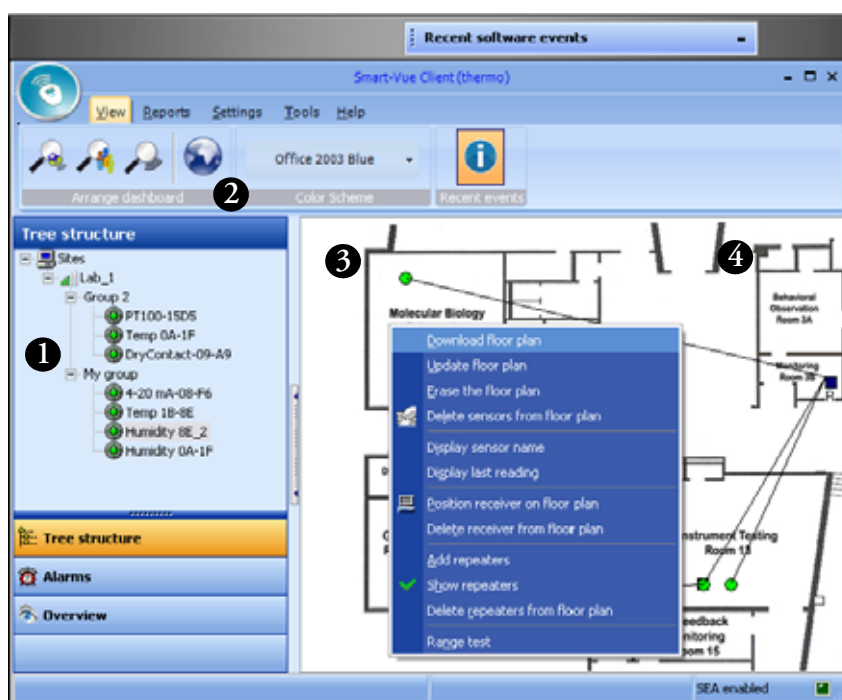

Figure 58. Update floor plan image and drag sensors onto it
1. **In the tree structure window, select the group to which you want to add a floor plan image (#1 in Figure 58).**